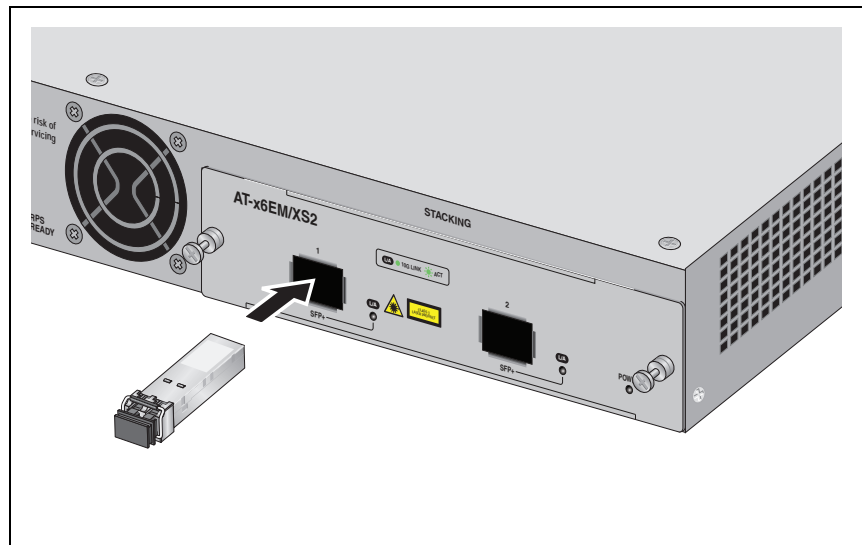

Figure 65. Installing an SFP+ Transceiver
4. Slide the transceiver into the slot until it clicks into place, as shown in Figure 65.